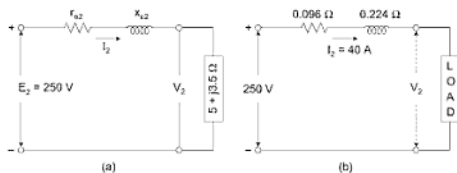

Fig. 5.45
(c) A current of 160 A in the l.v. winding is equivalent to 16 A in the h.v. winding. The equivalent circuit of the transformer, referred to h.v. side is illustrated in Fig. 5.45, from which equivalent leakage impedance referred to h.v. side is $Z_{e1} = 5.4 + j13$
- All the quantities may be referred to either the h.v. side or the l.v. side. In this question, i.v. winding is the secondary winding since load is connected across it, with all the quantities referred to the l.v. side, the equivalent circuit of Fig. 5.45(a) is obtained, where